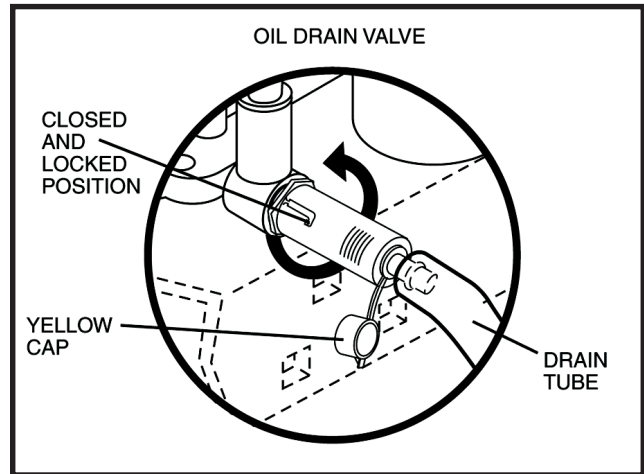

FIGURE 9
TO CHANGE ENGINE OIL (See Figs. 9). Determine temperature range expected before oil change. All oil must meet API service classification SF-SJ.
- After the oil has drained completely, close and lock the drain valve by pushing inward and turning clockwise until the pin is in the locked position as shown (Figure 9).,